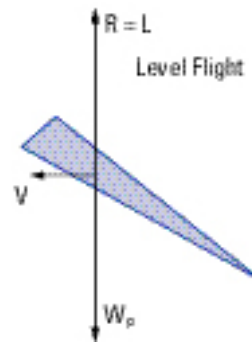

Figure 5
Figure 5 shows a steady paramotor flight, the drag (D) is nullified by the force of the paramotor (F_{ph}) and the combination flies in a horizontal direction (V). In this situation, the lift force (L) is the same as the total weight of the contraption minus the vertical upward force created by the paramotor ($W_p = W - F_{pv}$).